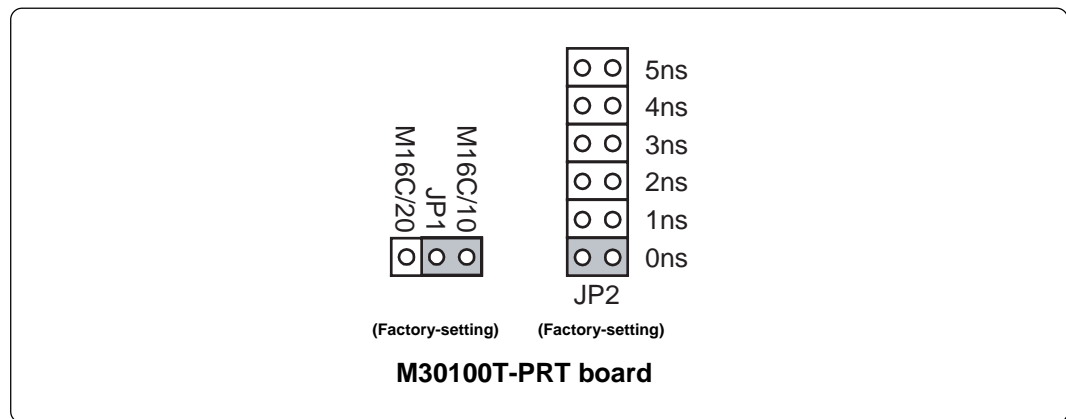

Figure 4.3 Switch settings (factory-settings) for the self-check
- (1) Set the switches in the emulation pod to the factory settings as shown in Figure 4.3. If specified, set the switches according to your pod probe.
- (2) If the target system is connected, disconnect it.
- (3) Within 2 seconds of activating power to the emulator, press the system reset switch on the emulator front panel to switch the emulator to maintenance mode.
- (4) Check the SAFE LED starts blinking and then press the system reset switch again.
- (5) The self-check will start. If the normal result is displayed in about 40 seconds, the self-check has terminated normally.
- Whether the switch settings of this product are the factory settings (Figure 4.3). If specified, check whether the switches are set according to your pod probe.